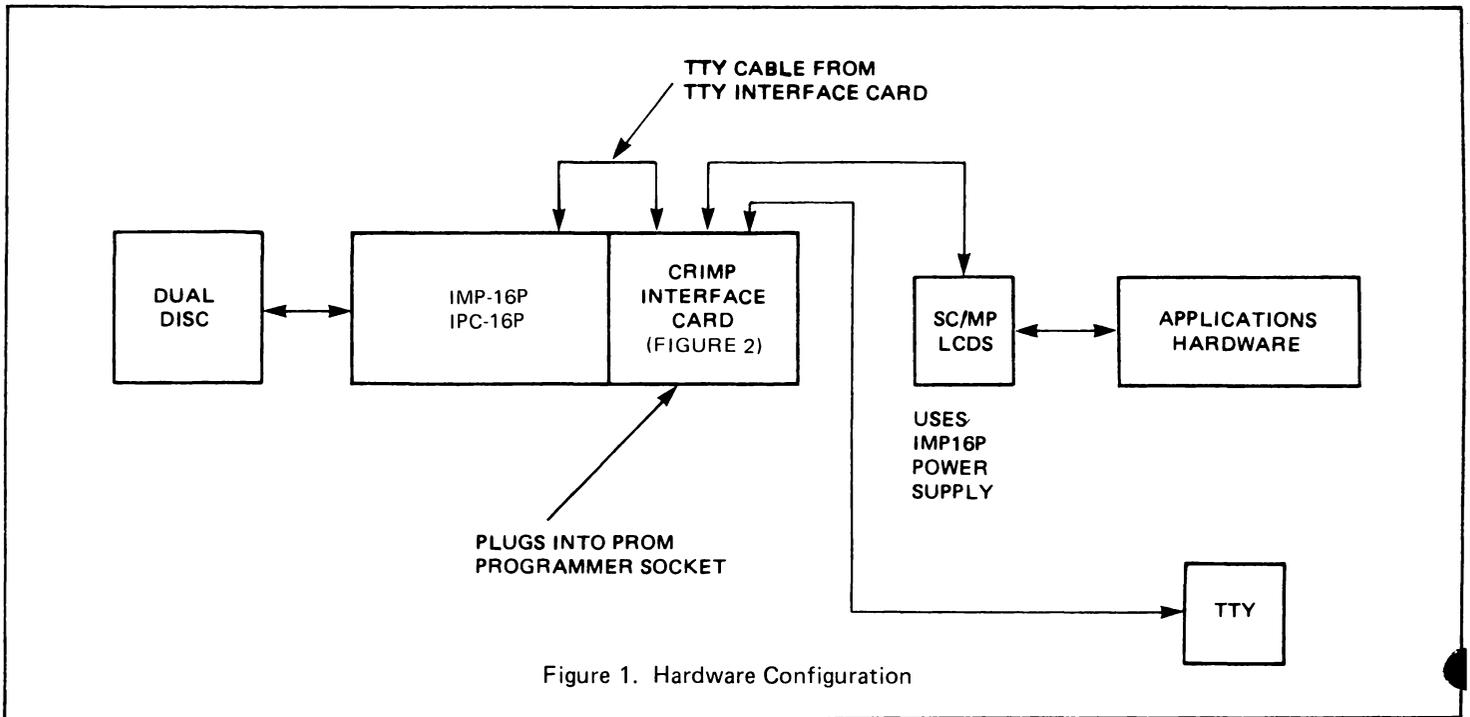

Figure 1. Hardware Configuration
1. Make the cuts shown in figure 1 on the SC/MP kit P.C. card.
Figure 1 is a block diagram of the hardware configuration.